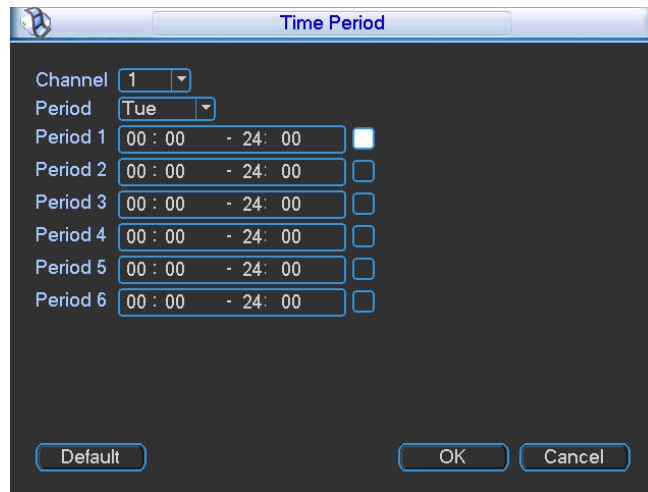

Figure 4-38
- ✧ Schedule: Click it; you can see an interface shown as in Figure 4-38. Here you can set snapshot period.